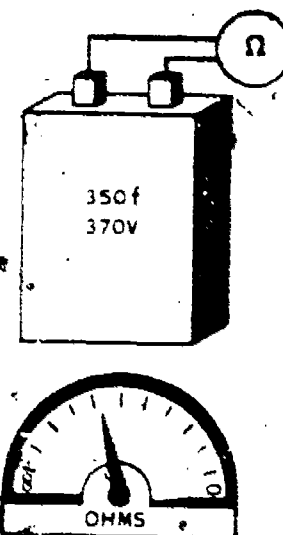

Figure 20
8. A single-phase, 208-volt capacitor start motor will not start. An ohmmeter check of the capacitor is made, with the results, as shown in figure 20. What should the repairman do? \_\_\_\_\_